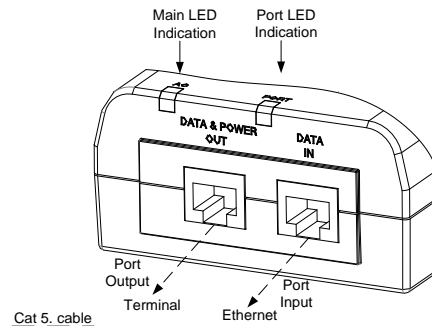

Figure 3: PoE Midspan Ports
- Connect the "DATA IN" jack (input) to the remote Ethernet network switch's Patch panel and the "DATA & POWER OUT" jack (output) to the terminal (See Figure 3).